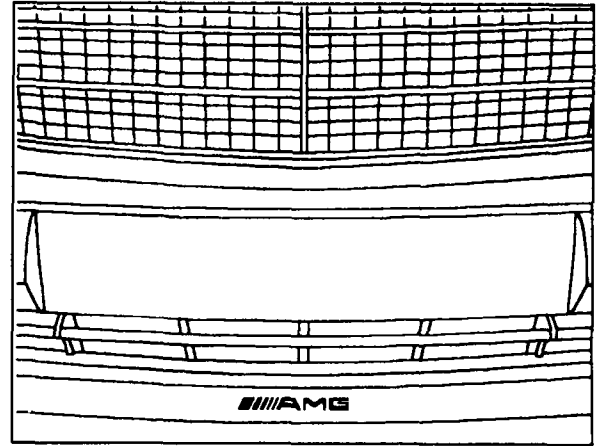

Figure 10
18. Warm AMG logo and mounting surface to 40 °C using heat gun. Apply logo according to Figure 10.